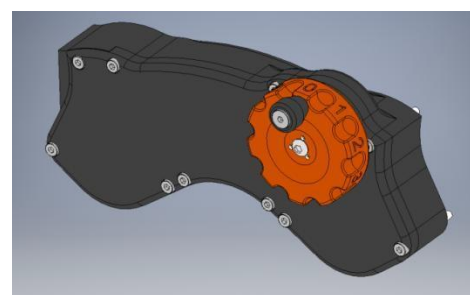

Figure 3
- 6) (Gear pack only) Slip the Handwheel in place ensuring that the "0" is located at the top (Figure 3). Attach with a M5x14 RH screw tightened to 15-20 in-lb (1.7-2.3 N-m).